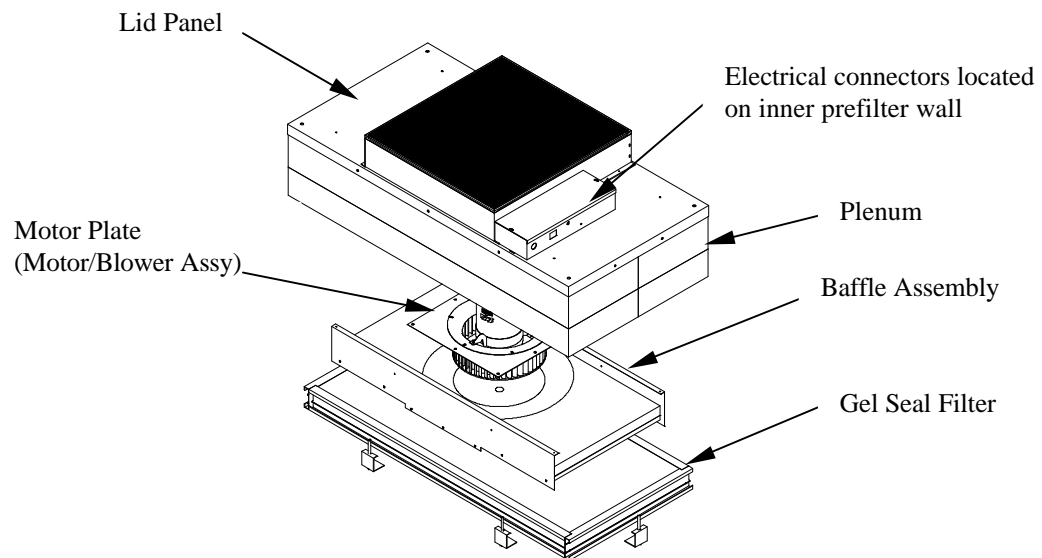

Figure 6
- Step 2.** While supporting the baffle assembly from below, remove the four corner screws on the baffle assembly and lower the assembly.(see Figure 6)